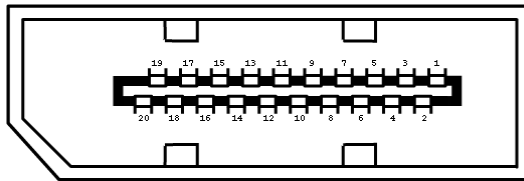
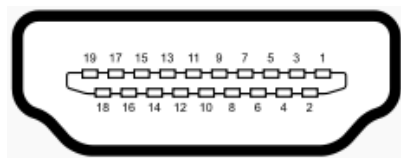

Figure 4-29: DP Connector
Figure 4-30: HDMI Connector
- CN Location: See Figure 4-29 and Figure 4-30